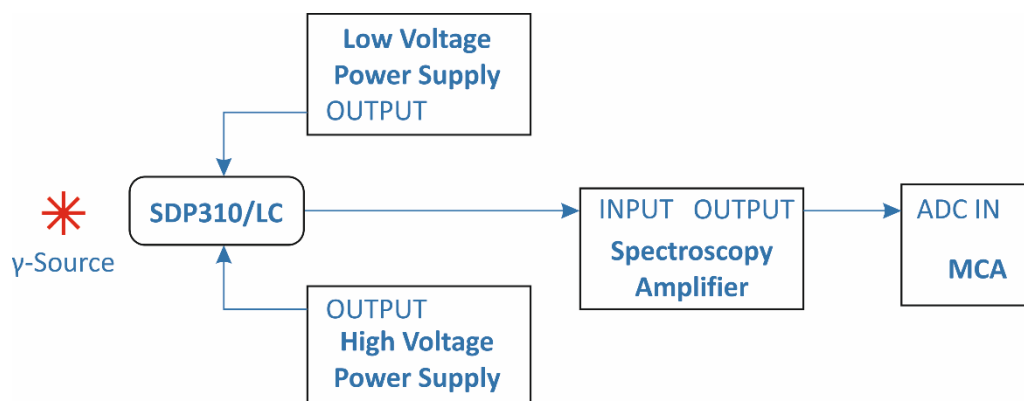

Fig. 6 – Test system for the SDP310.
- Connect the preamplifier cables; preamplifier power cable to outlet on the rear panel of the amplifier, the signal cable to the oscilloscope input and high voltage cable to HV supply, fig. 6.